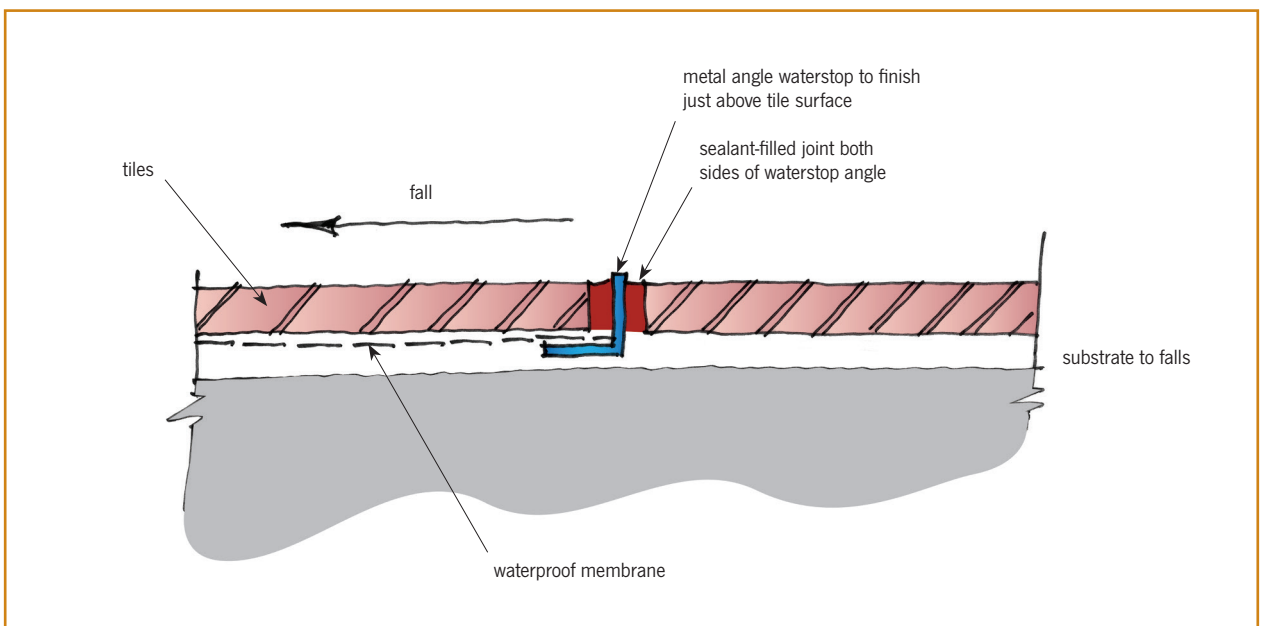

Figure 2. Waterstop detail at the edge of waterproofing.
6.1.2 The edge of the waterproofing membrane should be terminated at a waterstop – an aluminium angle set in the tiles (Figure 2). Terminate the membrane lapping it over the waterstop. This will be at the doorway if the whole floor is waterproofed.